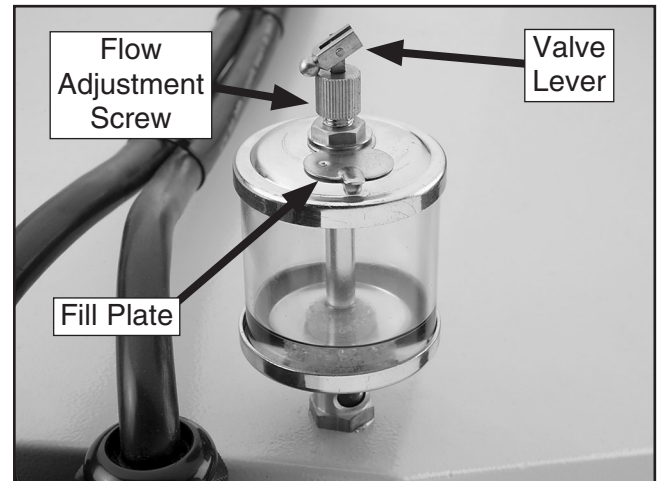

Figure 35. Lower pivot arm oil reservoir.
1. Slide the fill plate aside to add ISO-VG32 tool oil to the reservoir (see **Figure 35**).
3. Flip the valve lever up, as shown in **Figure 35**, to start the flow of lubricant from the bottom of the reservoir into the oil line.